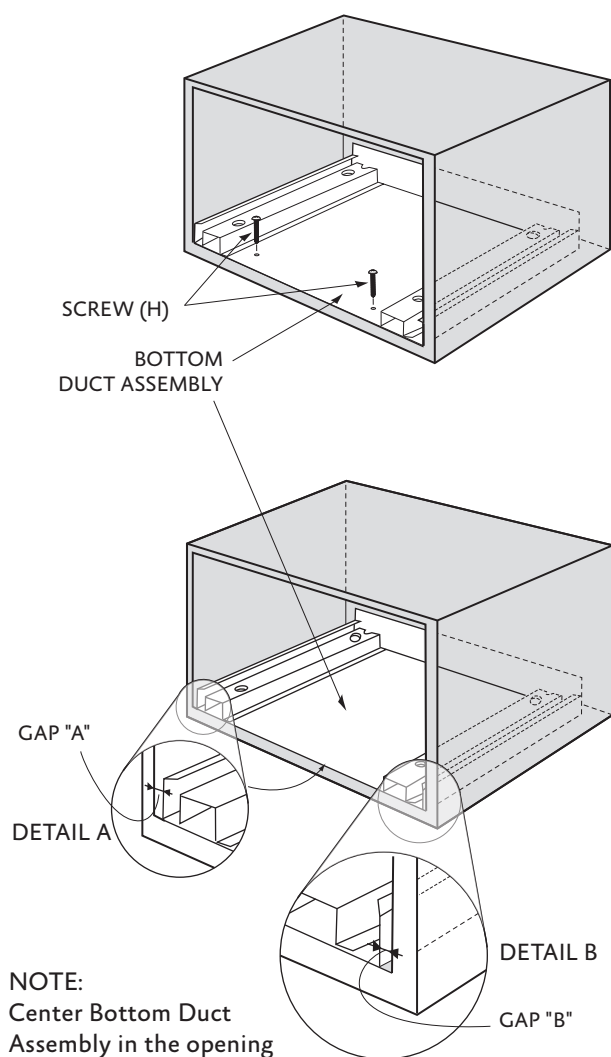

Figure 8
A. **BOTTOM DUCT ASSEMBLY:** Place the Bottom duct in the center of the opening so that gap "A" is equal to gap "B". When the Bottom Duct assembly is positioned properly, the front edge of the duct will be flush with the front of the cabinet. Secure with 2 SCREWS (H). See Figure 8.